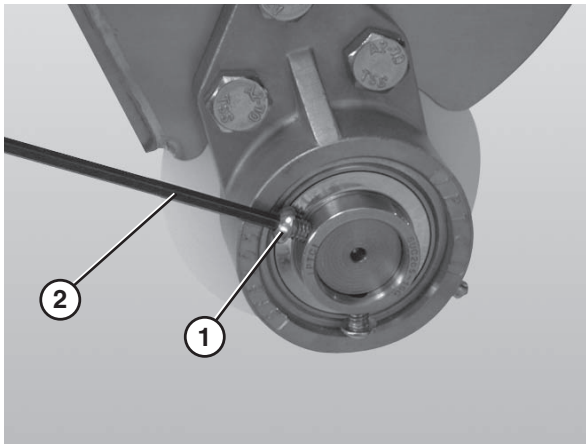

Figure 76
5. Tighten the 3 hole flange with bearing fasteners (Figure 76, item 1) using a hex wrench (Figure 76, item 2) to 54 in•lbs (6 N•m). Check after 24 hours of conveyor use.